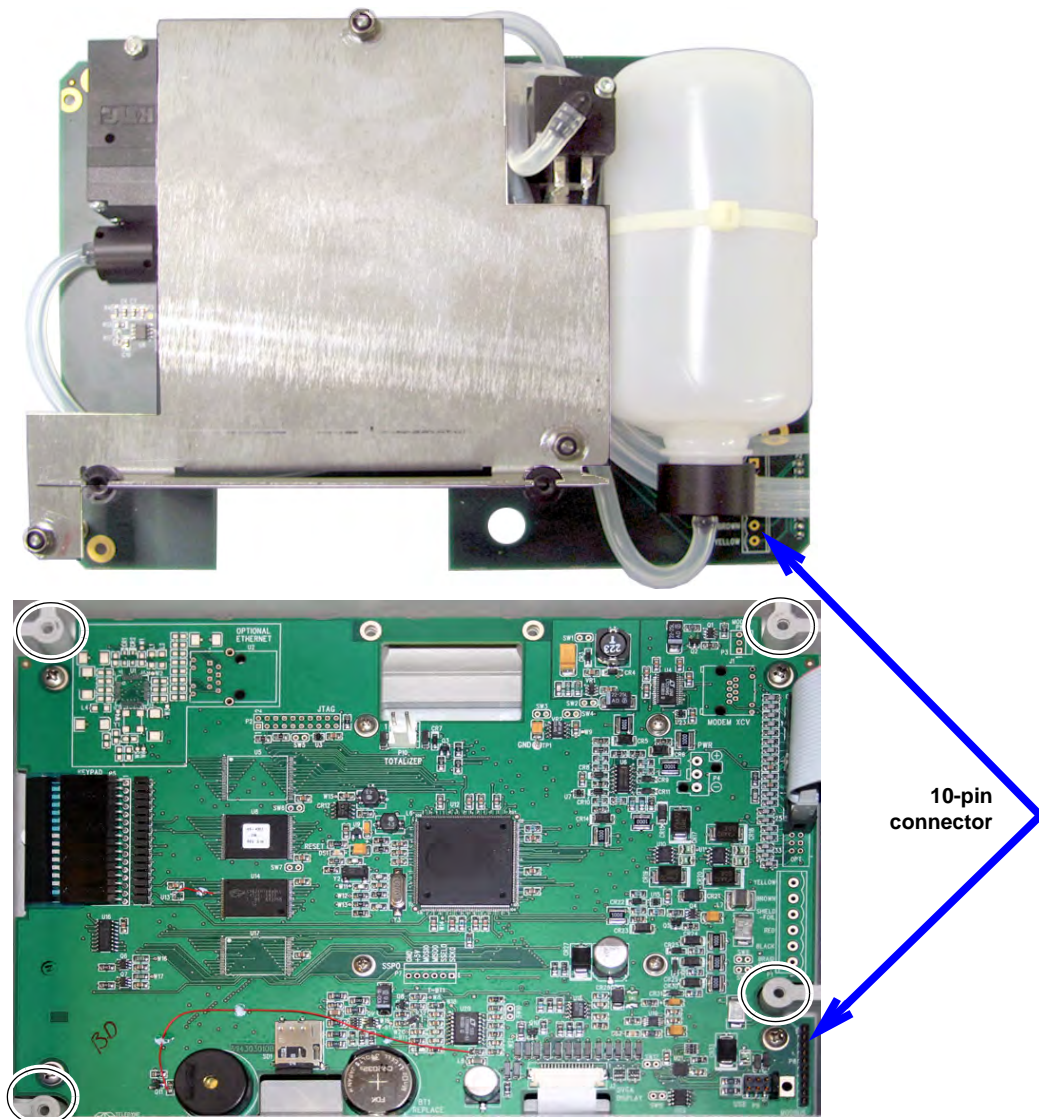

Figure 6-11 330 Bubbler assembly installation
**6.7.3 Installation Procedure** Referring to Figures 6-11, and 6-13, perform the following steps.